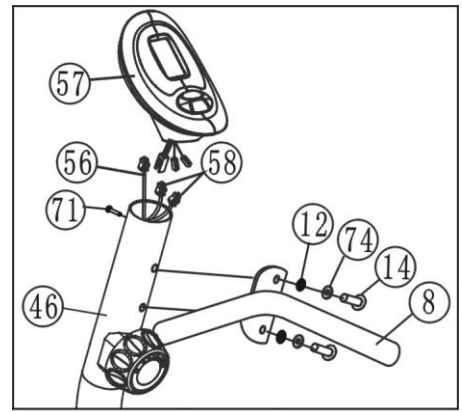

Figure 4
Connect the Computer wire (56) and the hand pulse wire I (58) to the wires that come from the Computer (57). Attach the Computer (57) to the top of Front upright tube (46). then tighten it with M5\*10 cross-head screw(71). (See figure 4)
Attach the front handle bar (8) to the Front upright tube (46) with two sets of M8\*20 bolts (14), Spring washer $\varnothing$ 8(74) and $\varnothing$ 8 Arc washer (12) (See figure 4)